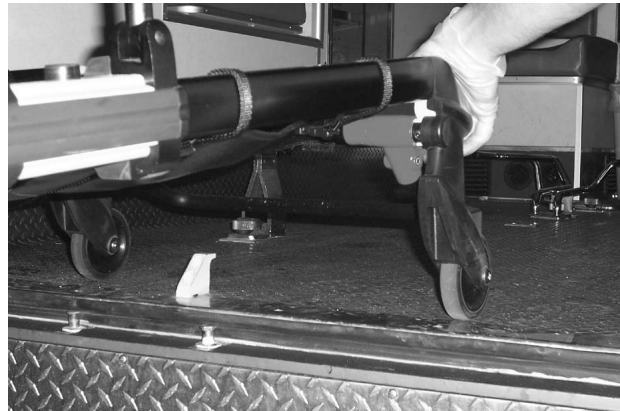

Figure 19: Disengaging the Safety Bar
6. **Operator 2** – Pull the safety bar release lever forward to disengage the safety bar from the safety hook in the patient compartment (Figure 19).